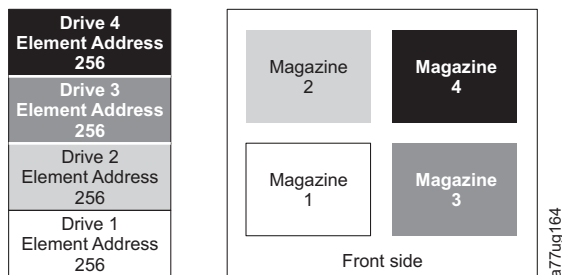

Figure B-4. Configuration of a four - partition system
- Logical Library 1: Slot1 through 23 4096 (0x1000) through 4118 (0x1016) as shown in Figure B-4 on page B-6
When configured with four logical partitions, the Element Address assignments are as follows: DTE assignments are as shown in Figure B-4 on page B-6.